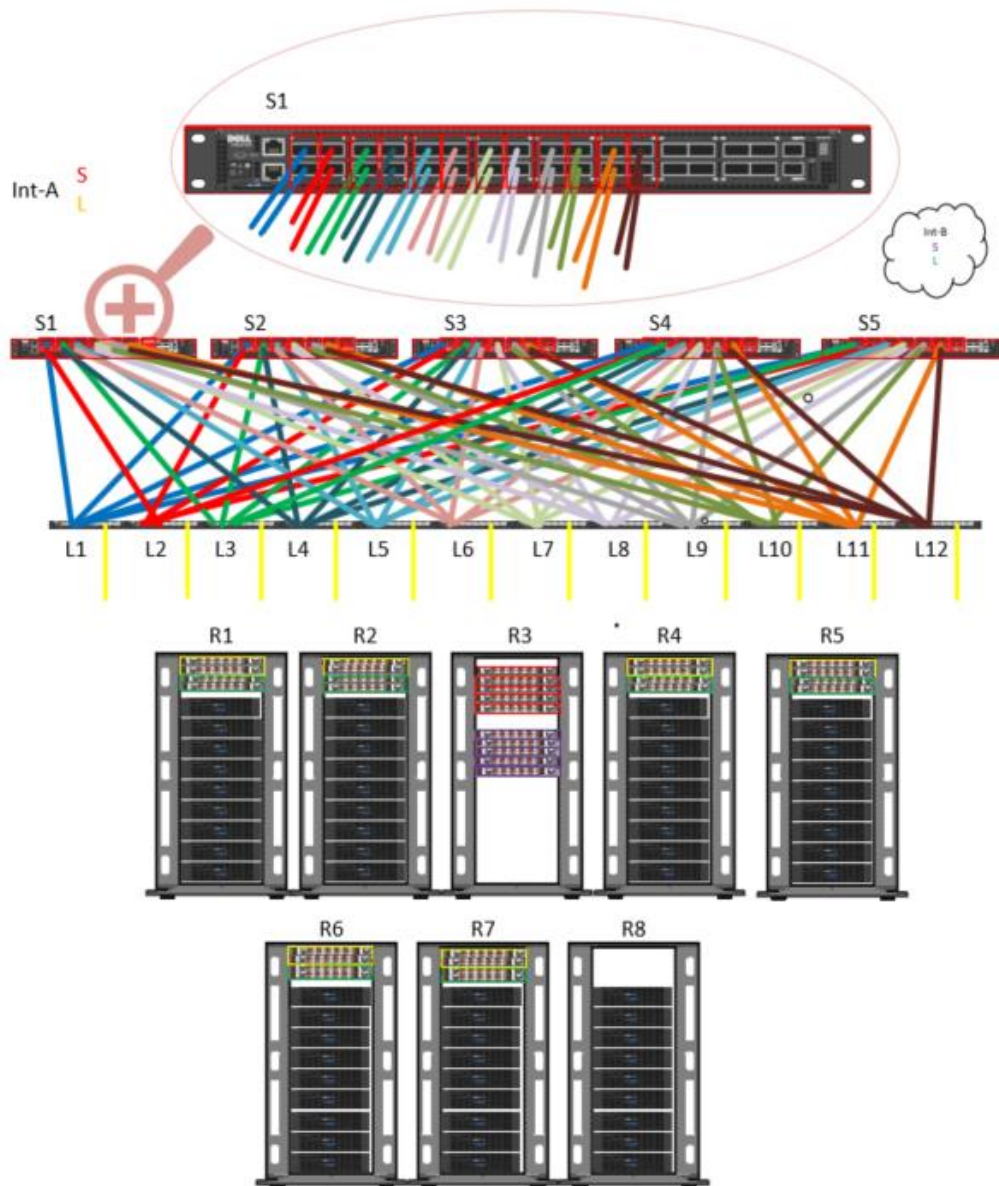

Figure 1 Sample configuration design of 252 nodes with 40 GbE back-end- network
**Design considerations:** To simplify and organize cabling, place your leaf switches accordingly (see Figure 1). As shown, two leaf switches from Int-a and two leaf switches from Int-b are spread across all racks except R8. No leaf switches are on R8, and the chassis on R8 must connect to a different rack.